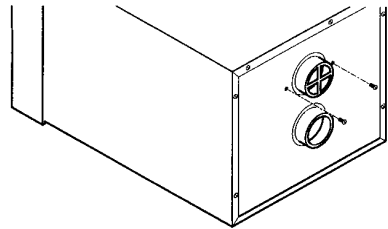

Figure 9 - Locations of Screws in Back of Furnace Cabinet (25,000 BTU/Hr Model)
- 1. Remove the two screws in back of furnace cabinet located by the exhaust vent(s) (see Figures 9 and 10).